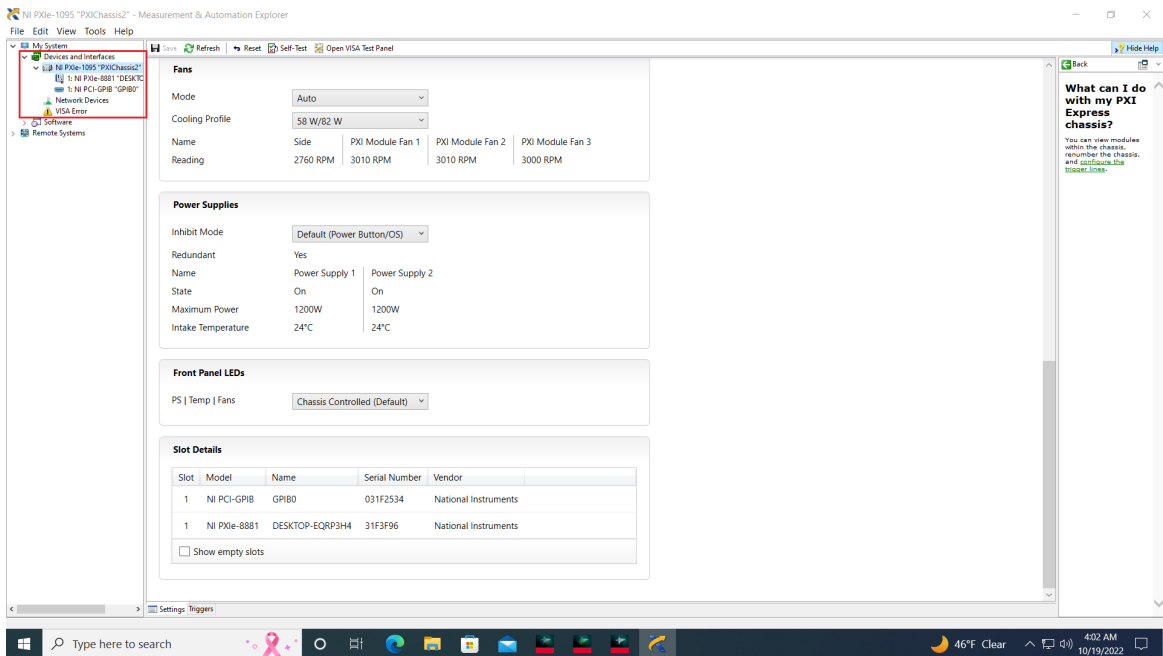

Figure 38 Non appearance of M5000 series modules in NI MAX interface
This issue is specific to the users who have installed one or more M5000 series modules in the National Instruments (NI) chassis. The modules may be detected by the Keysight IO Libraries Suite. However, if you do not see those under “Devices and Interfaces” in the NI – Measurement & Automation Explorer (MAX) Interface and see VISA error, as shown in Figure 38, the possible reason is that the NI associated drivers were not installed properly.